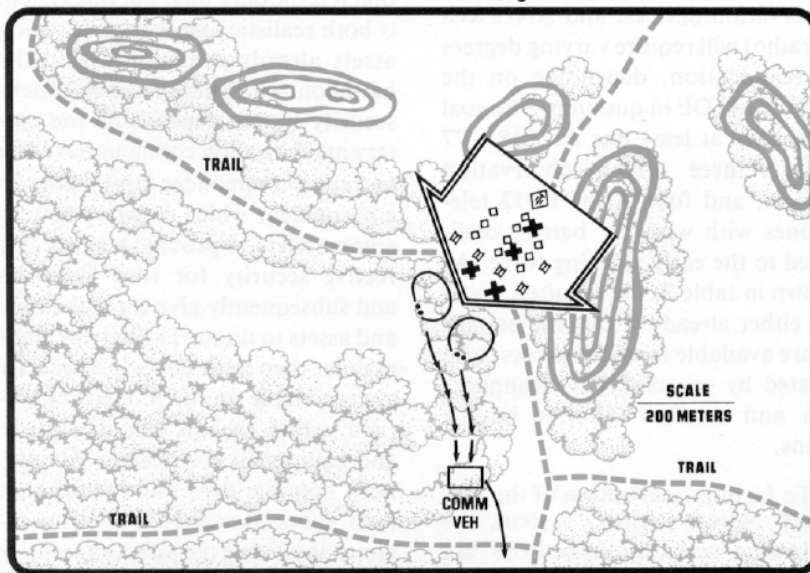

Figure 4. Disengagement of screening force.
• **Phase IV—disengagement of screening force (figure 4):**